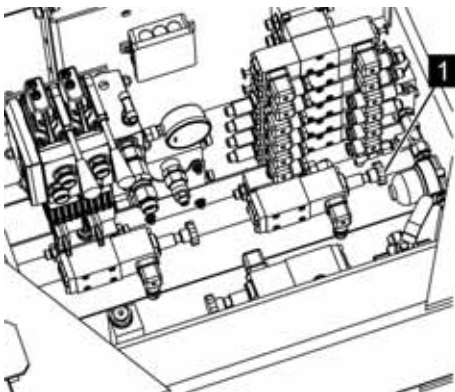

Fig. 107: Valves
8. ➤ For emergency operation, unlock the shuttle valve (Fig. 107/1).
- Make sure that the shuttle valve (Fig. 107/1) is completely unlocked for normal operation.